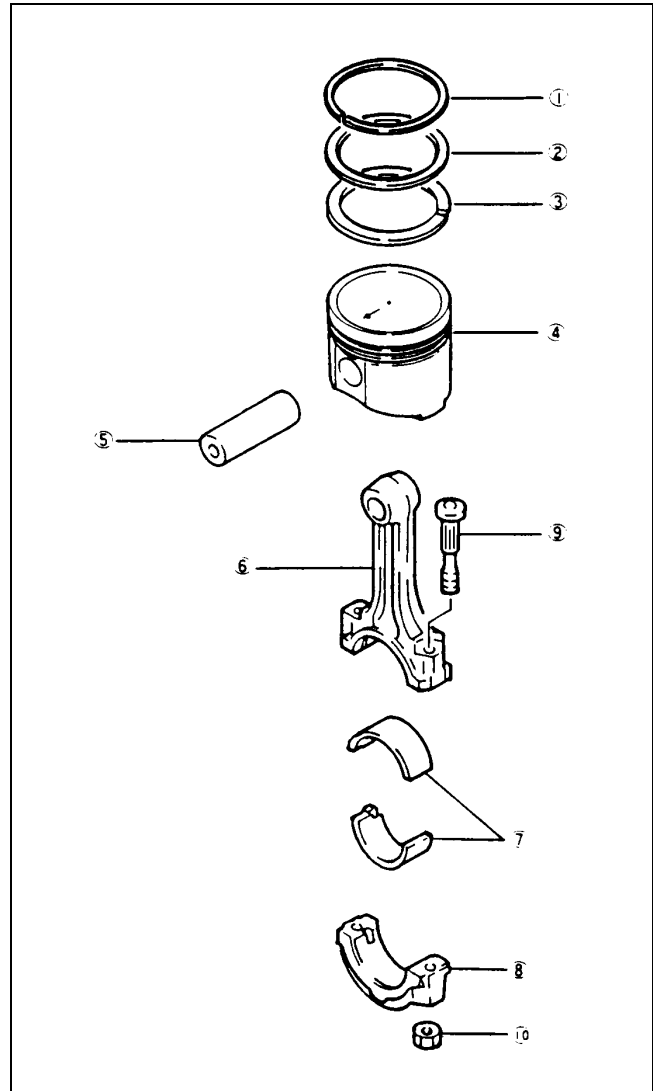

Figure 83
5. Remove the connecting rod end caps and bearings (Fig 83). Keep these parts in cylinder number order so they can be reinstalled in the same cylinder. Use a wood block to push the pistons and connecting rods up from the bottom of the block. Take care not to scratch the crankshaft pin and cylinder.